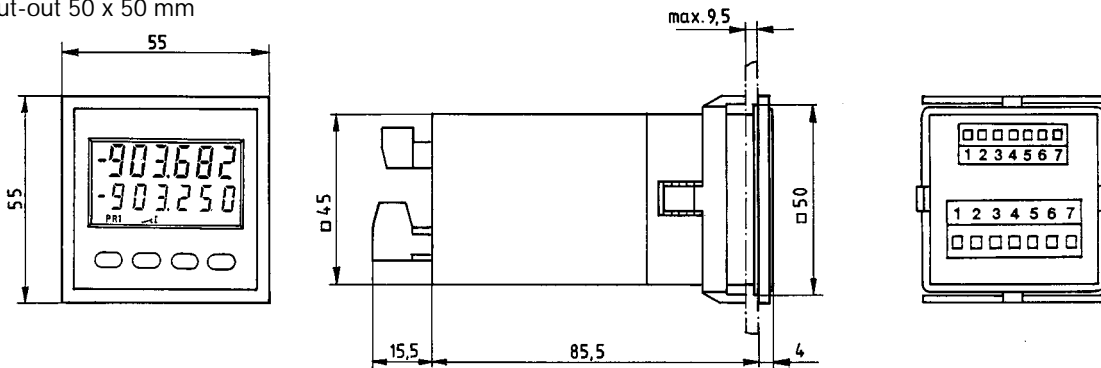

Fig. 2
- bezel for clip mount (see fig. 2), panel cut-out 50 x 50 mm;